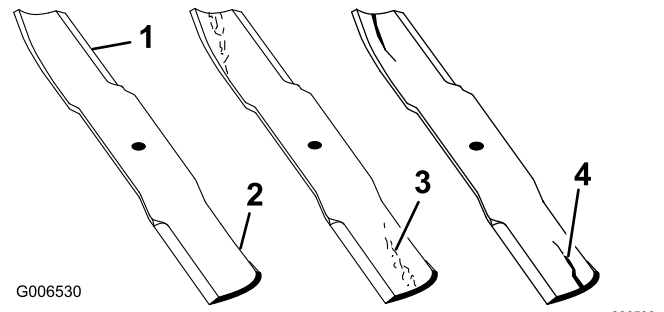

Figure 49
1. Inspect the cutting edges (Figure 49).
4. If you notice any cracks, wear, or a slot forming in this area, immediately install a new blade (Figure 49).